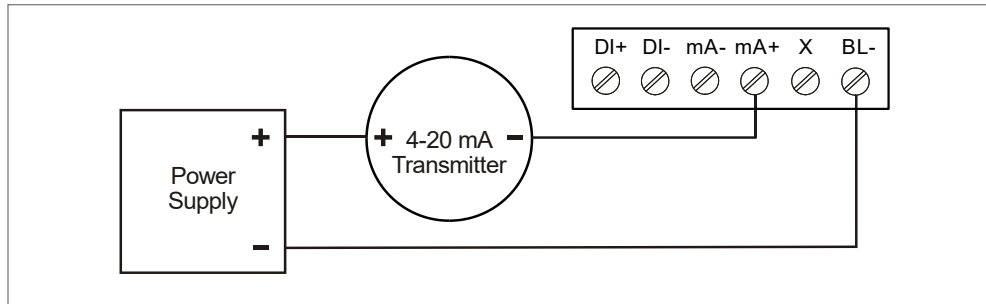
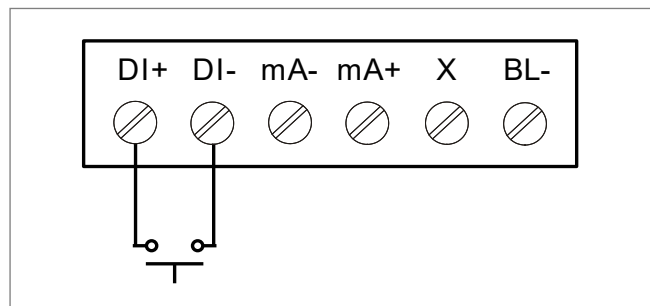

Fig 8: 4-20mA Input Connection with Backlight
Fig 9: Digital Input Connection
- The following figures 8 and 9 shows 4-20 mA loop connected to the meter.
- Figure 8 shows the connection without the backlight and figure 9 shows the connection with the backlight.